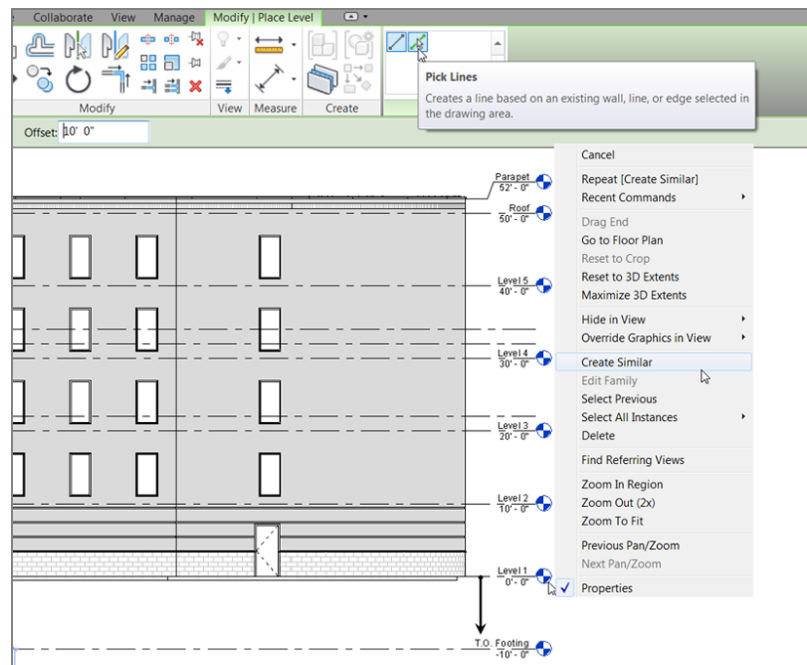

FIGURE 6.53: Adding a new Top of Footing level
3. On the Draw panel, click the Pick Lines button, and set an offset of 10'-0" (3000mm), as shown in Figure 6.53.
6. Pick the level that is set to -10'-0" (-3000mm), and rename it T.O. Footing (see Figure 6.53).